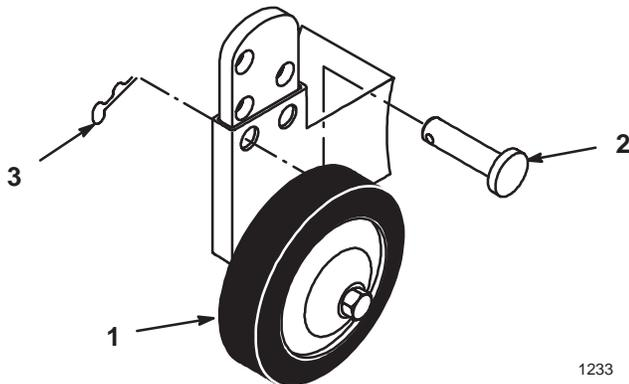

Figure 26
2. To adjust the wheel height, remove the hairpin cotter and pin to change hole location (Fig. 26).
3. Select a hole position so the wheel is approximately 3/8 in. (9.5 mm) off the ground for the height-of-cut position to be used (Fig. 26).